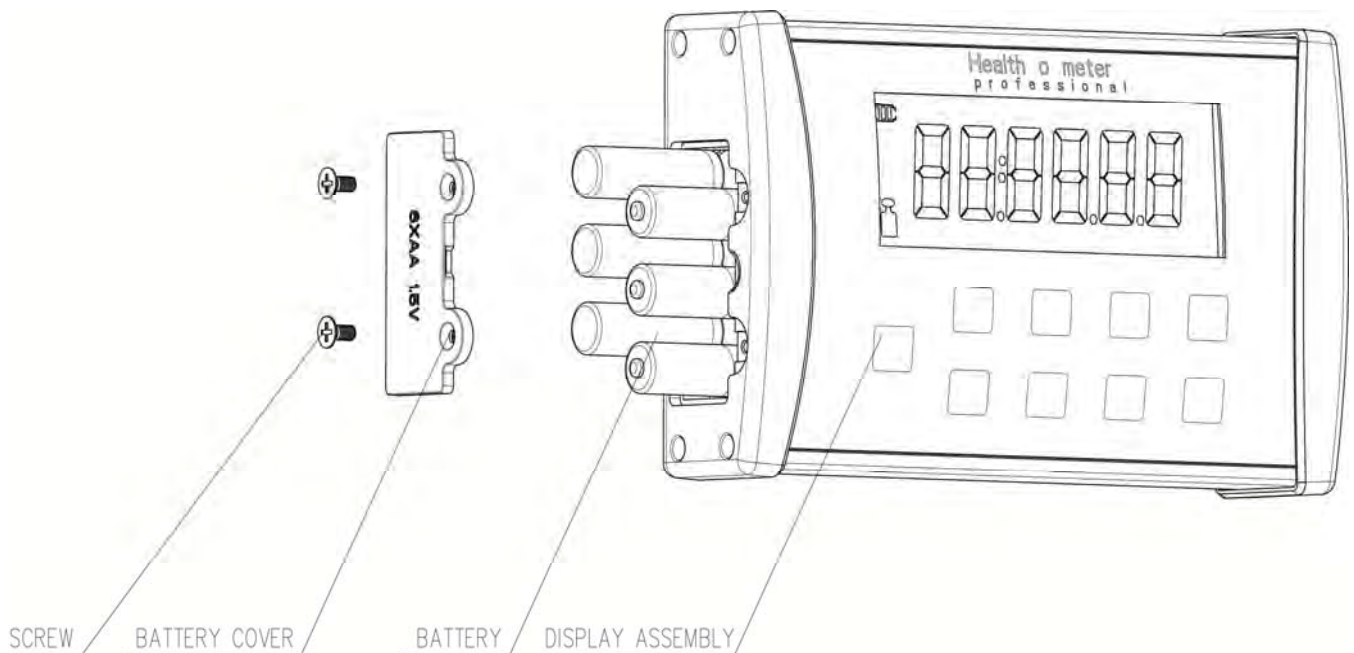

Figure 11
2. Remove the battery cover on the side of the display head by unscrewing the (2) battery cover screws (see Figure 11).